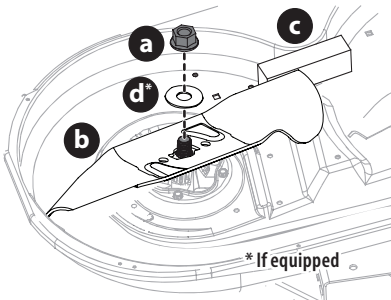

Figure 47
2. Use a 15/16 inch wrench to hold the hex nut on top of the spindle assembly when loosening the hex nut (a) and washer (d)* securing the blade (b). A block of wood (c) may be placed between the deck housing and the cutting edge of the blade (b) to help in breaking loose the hex nut (a) and washer (d)* securing the blade (Figure 47).
2. When re-installing blades, be sure of the following (Figure 47 on page 32):
3. Tighten hex nuts (a) to 70-90 ft-lbs (95-122 N-m) (Figure 47 on page 32).